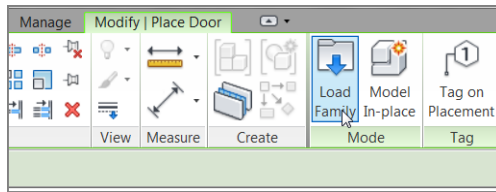

FIGURE 1.53: You can load an .rfa file during the placement of a hosted family.
4. On the Modify | Place Door tab, click the Load Family button, as shown in Figure 1.53. This opens the Load Family dialog.